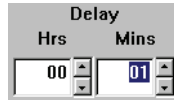

Figure 5-37: Update Delay
1. In the Update Delay field, use the spinners to select how long you want the host computer to wait until it begins updating the network. For this example we will enter 1 minute (see Figure 5-37). This means that the host computer will wait for 1 minute until it begins to update the network.